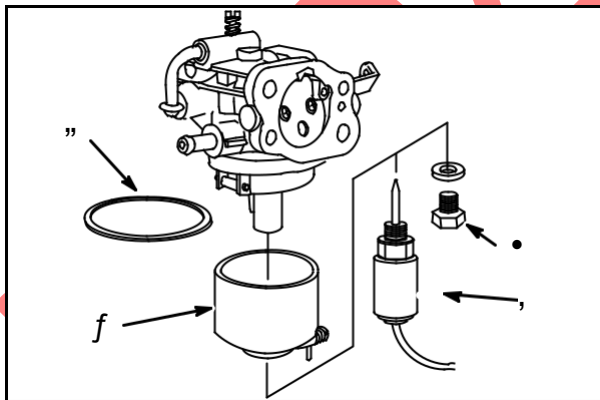

Fig. 43
Remove anti-afterfire solenoid (2) or bowl screw (1), washer and bowl (3), **Fig. 43**. Remove bowl gasket (4).